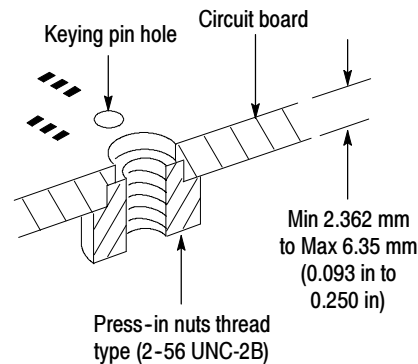

Figure 9: Press-in Nuts installation
- a. Install the press-in nuts on the PCB by following the Manufacturer's installation procedure. Refer to Figure 9 for press-in nut installation details.